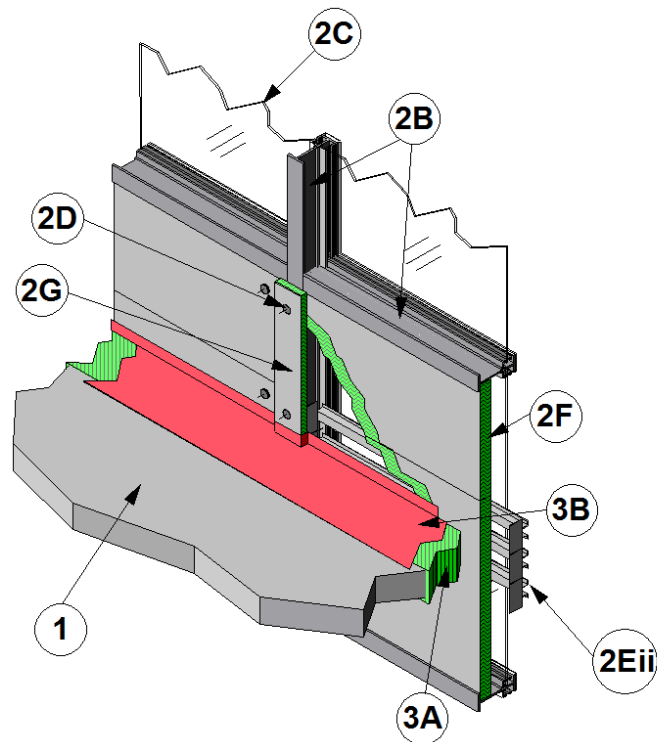

FIGURE 2 – Perimeter Fire Barrier System with Hat Channel Reinforcement
- ii. Reinforcing Hat Channel: (See Figure 2)